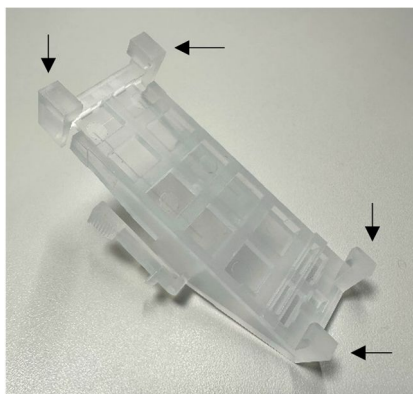

Figure 3. CellKeep Cytospin adaptor brackets.
- Load the CellKeep slide into a CellKeep Cytospin adaptor. The adaptor has upper and lower brackets that hold the CellKeep slide in place (Figure 3).